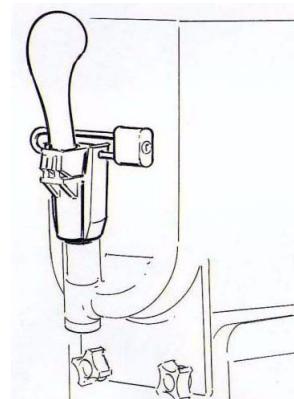

FIGURE 33
2. Attach a padlock in hole provided on the locking clip (see Figure 33).